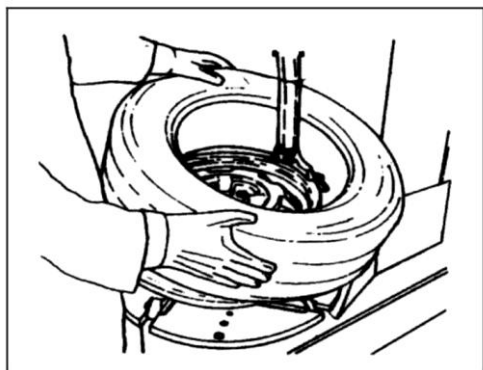

FIG25
4.1.5 Take out the tube and then move up the lower lip to contact with the upper edge of the rim and repeat the step of 4.1.4. Detach another lip (fig25) . Step the column tilt pedal(fig2-11) and the column tilt backwards and at this moment, you can take off the tire.